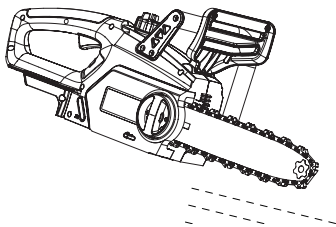

Fig. 11
1. Make sure the guide bar (12) and the saw chain (11) are in place when you check the oil delivery.
2. Start the product; keep it running at no load and check if the chain oil is delivered as shown in the figure (Figs.11, 12).